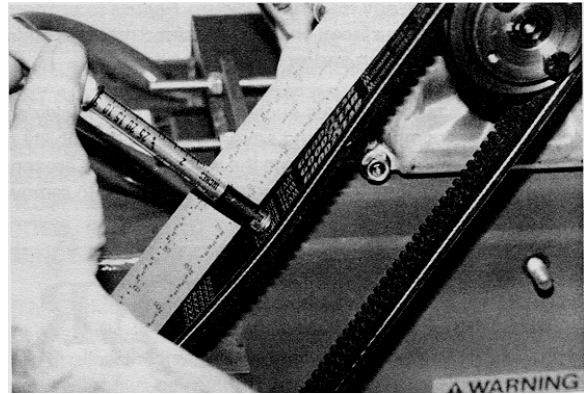

FIGURE 32
4) Check belt tension using the spring scale or belt tension tool midway between the engine and driveshaft pulleys. Belt deflection should measure approximately 3/16 inch at 3-7/8 to 5-1/2 lbs force. FIGURE 32. If tension is within specifications, proceed to Step 4. If tension is not within specifications, refer to INSTALLING A REPLACEMENT V-BELT for specific information.